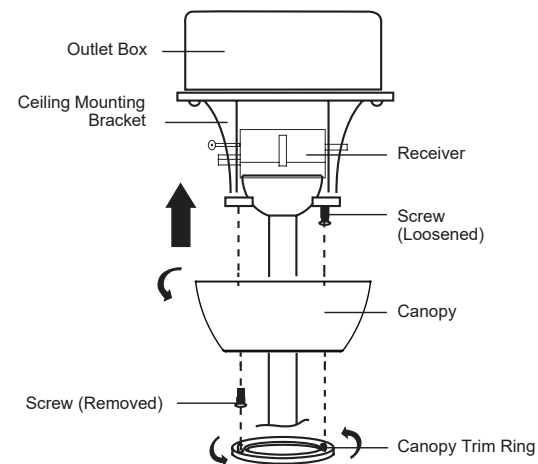

Fig. 15
Step 3. Carefully raise the canopy up to the ceiling mounting bracket and place the keyhole slot in the canopy over the screw head on the ceiling mounting bracket. Rotate the canopy until it locks in place against the screw at the narrow section of the keyhole slot. **(Fig. 15)**
NOTE: Adjust the screws as necessary until the canopy and canopy trim ring are snug. **(Fig. 15)**